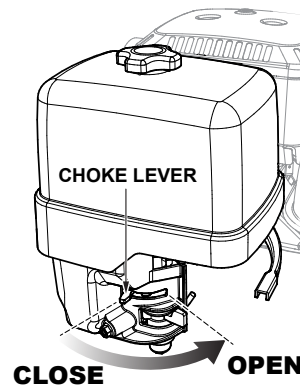

Figure 7. Engine Choke Lever (Open)
3. Place the choke lever in the **OPEN** position (Figure 7) if starting a warm engine, or if the ambient temperature is warm.